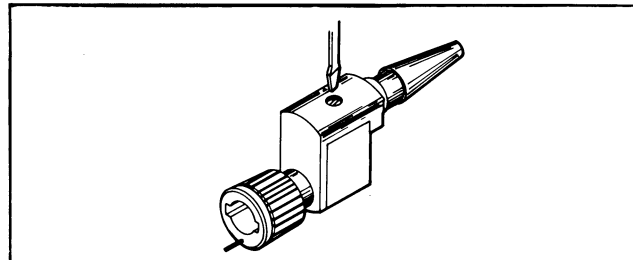

Fig. 4. Compensation adjustment location.
2. Adjust probe compensation (Fig. 4) for optimum flat top on display (Fig. 5).